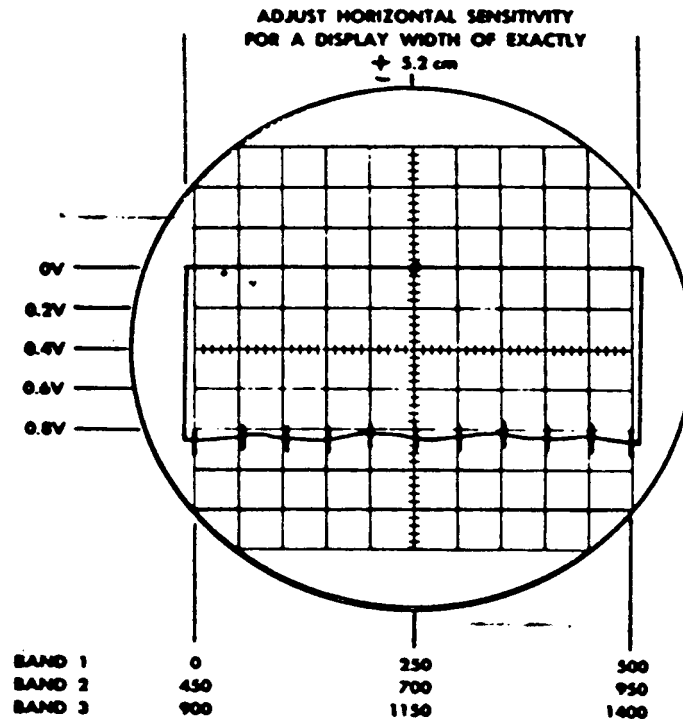

Figure 2. RF detector display.
(1) Adjust **MARKER SIZE** and oscilloscope No. 2 vertical and horizontal controls to obtain a pattern as shown in figure 2. (Set oscilloscope for xy.)
(2) Connect signal generator output to **MARKER** in and frequency counter.
(3) Adjust **CENT FREQ** and **SWEEP WIDTH** until second **50 MHz** harmonic marker is centered on oscilloscope and marker expanded sufficiently to observe zero beat.
(4) Adjust signal generator for a 50 MHz zero beat (when signal generator marker is aligned with second 50 MHz marker) with the internally (TI) generated marker on oscilloscope.
(5) At zero beat, the frequency counter will indicate between 49.9975 and 50.0025 MHz.
(6) Repeat (3) through (5) above for **1, 5, 10, and 100 MARKERS MHz** settings, decreasing the **SWEEP WIDTH** as required (example: 40-65 MHz) to obtain a zero beat with the **1, 5, and 10 MHz** markers. The allowable error is $\pm 0.005\%$ of the internal marker frequency.
(7) Note that single frequency markers should have no spurious markers throughout the sweep range. Harmonic type markers may have small spurious markers at one-half or one-third the specified marker interval.
(8) Readjust TI and oscilloscope controls to obtain display shown in figure 2.
(9) Set **MARKER SIZE** switch to the down position.
(10) Set **MARKER TILT** switch to the up position.
(11) If markers are not at least 12 V p-p, perform **b** below.
(12) Note that the birdy marker is adjustable from 12 V p-p vertical marker to a horizontal marker equal to 10% of the horizontal deflection (1 cm on a 10 CM deflection).
(1) Readjust TI and oscilloscope controls to obtain display shown in figure 2.
- (2) Reset controls as specified in **7e** above.
- (3) Readjust oscilloscope No. 2 controls to obtain display shown in figure 2.
- (1) Adjust M9H **CENT BAND 1** control to position the 250 MHz marker at the exact center of oscilloscope display (fig. 2) (R).
- (2) Adjust M2H **SWEEP WIDTH 1** to position the 0 frequency and the 500 MHz marker as shown in figure 2. Compromise between 0 and 500 if necessary (R).
- (3) Note the extreme left side of the oscilloscope display.
- (4) Set **SWEEP TIME SEC** to **LINE**.
- (5) Adjust M1H **CLAMP** to extend the sweep 0.2 cm beyond the first graticule line (R).
- (7) A pattern similar to figure 2 should be present on oscilloscope.
- (8) Reduce **SWEEP WIDTH** control until the 500 MHz marker just disappears from the right side of the oscilloscope display.
- (9) Read the error on the **STOP** frequency indication (red).
- (10) Repeat (6) through (9) above at each 50 MHz interval. Allowable error is ± 10 MHz.
- (11) Set **MODE** switch to **CW**.
- (12) Remove the RF detector from **RF OUT** jack.
- (13) Connect **RF OUT** to frequency counter.
- (14) Adjust **CENT FREQ** control to **50 MHz**.
- (15) Observe frequency counter reading. Allowable error is ± 10 MHz.
- (16) Repeat technique of (14) and (15) above at each 50 MHz interval across the band. The allowable error is ± 10 MHz.